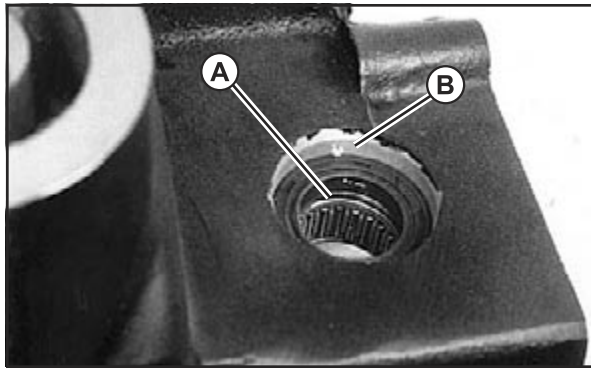

Fig. 67, Front PTO Shaft Port
1. Remove front PTO shaft seal (B). (Fig. 67)
2. Inspect needle bearing (A) for wear or damage. Remove if necessary. Install new needle bearing from inside case with bearing identification marks toward the inside of the case. Push bearing tight against shoulder in bore.